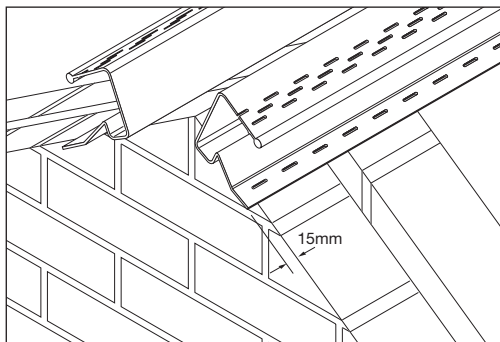

Fig 7 Detail at ridge
- 1 When used with the Marley Eternit Dry Ridge system the low profile batten sections should extend 15mm beyond the outer wall or outer edge of the bargeboard (Fig 7).